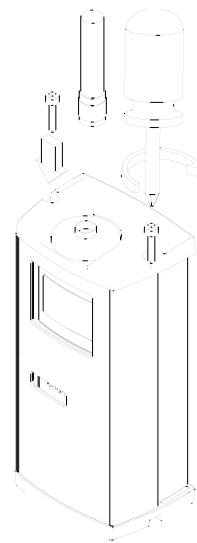

Figure 4c
5. Screw back the two (2) 3x16 A4-screws to attach the top cover to the SATEL-321 casing. The maximum allowable torque is 0.8 Nm (see Figure 4c). Connect the antenna.